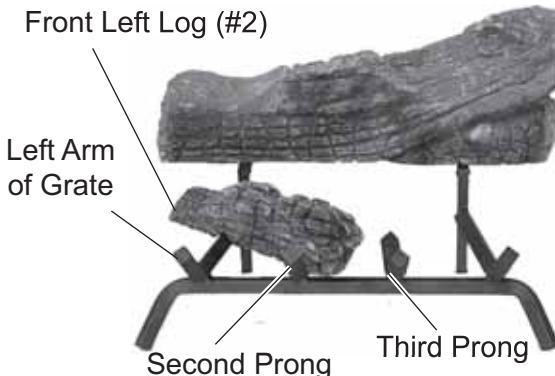

Figure 70 - Placing Front Left Log (#2) on Left Arm of Grate
3. Place Front Left Log #2 in front of back log on left arm of grate. Rest end of bottom left log between second and third prong. *See Figure 70.*